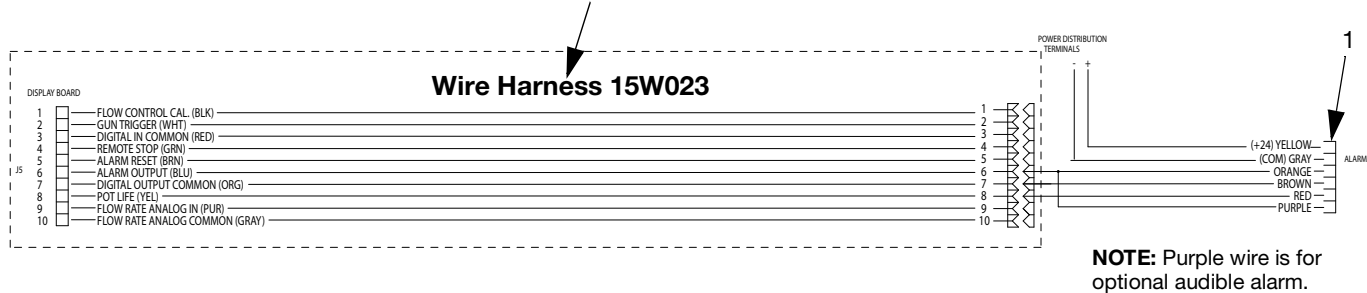

FIG. 5: 122193 Beacon Tower Wiring Diagram
4. Connect orange, brown, and red wires to header pins 6, 7, and 8. See FIG. 5 on page 6.
5. To enable the optional audible alarm, connect purple wire to pin 6 on header. See FIG. 5 on page 6. When enabled, it will sound for all system alarms.